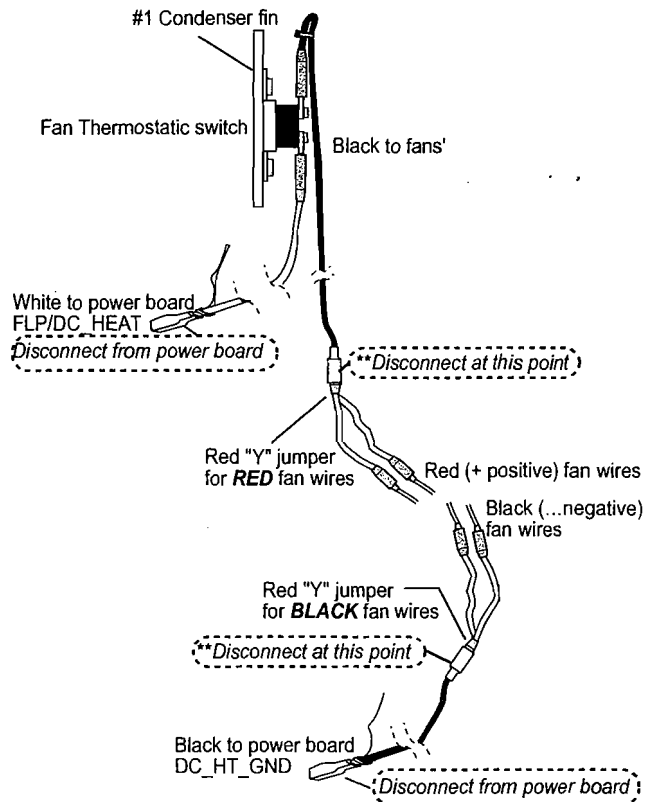

Figure 10. Fans' thermostatic switch and connections.
- Disconnect the black wire and white wire from thermostatic switch. Figure 10 shows the disconnect points at switch terminal.
- Disconnect the Y jumper wire. Leave fans attached to brackets on absorber coil. Figure 10 shows disconnect points.